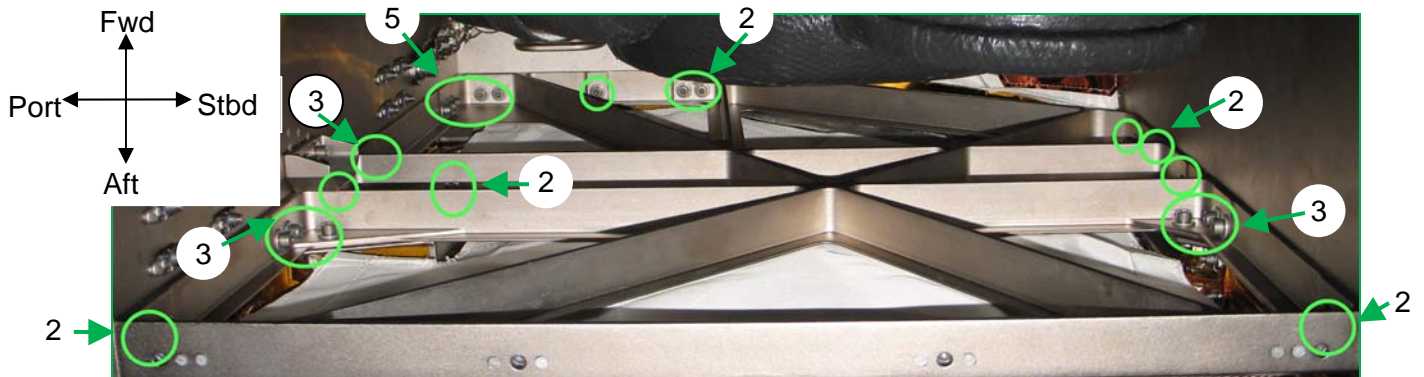

Figure 5.- Shear Frame, Fastener Locations Circled.
1. In Figure 5, fasteners may not be visible in the photo. That is because they are obscured behind the shear panel.
Refer to Figure 5.